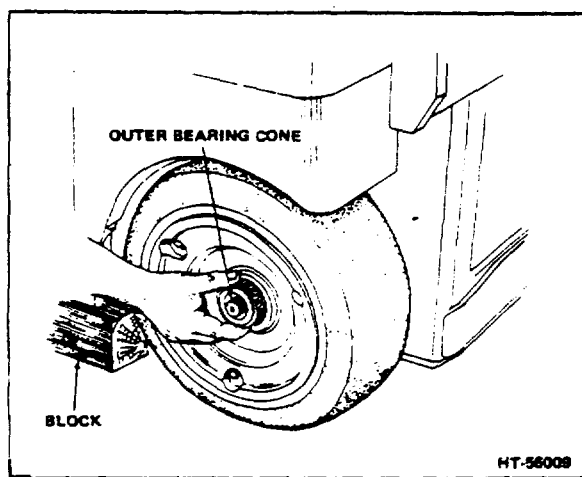

Figure 2-1. Remove Drive Wheel Outer Bearing Cone
3. Remove outer bearing cone (Fig 2-1) from wheel and carefully remove the drive wheel.